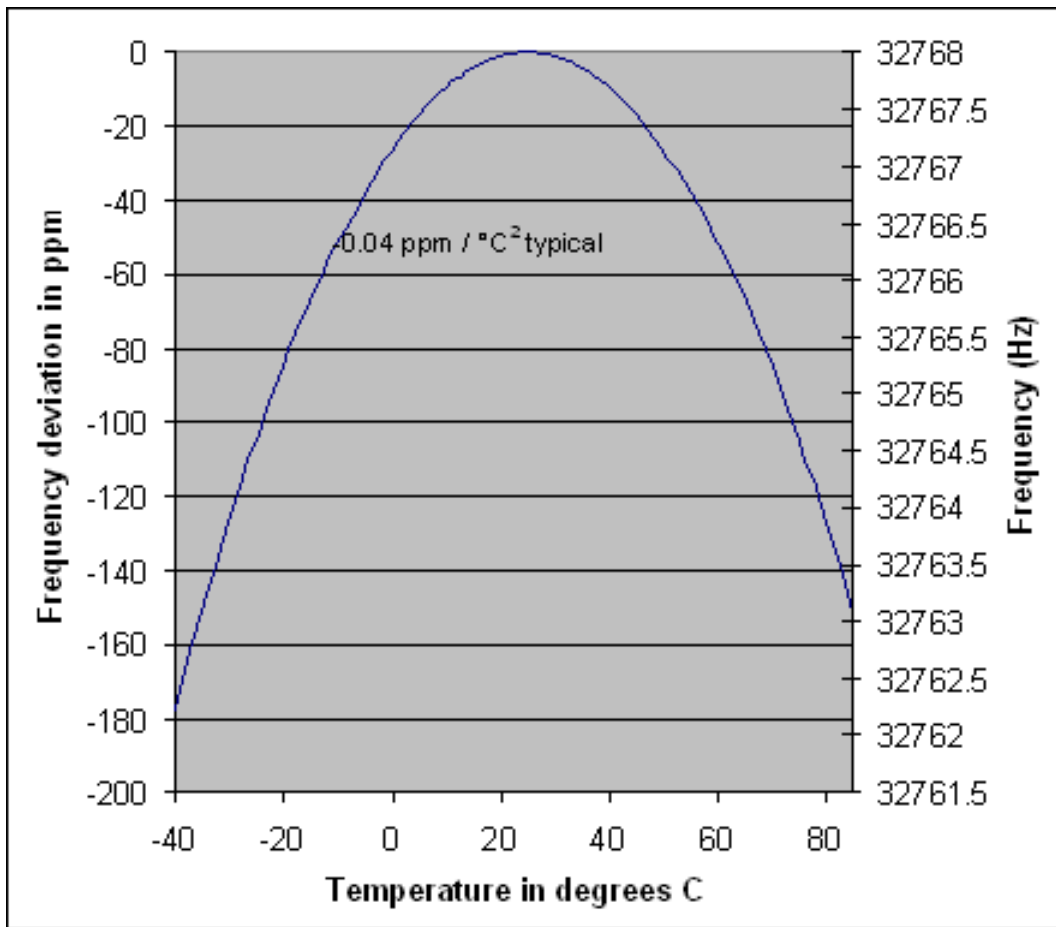

Figure 2. Crystal frequency vs. temperature.
In addition to the errors from the crystal and the load match, crystals vary from their base frequency as the ambient temperature changes. RTCs use "tuning fork" crystals, which exhibit an error over temperature, as shown in **Figure 2**. An error of 20ppm is equivalent to approximately 1 minute per month.
3. If possible, place a guard ring (connected to ground) around the crystal. This helps isolate the crystal from noise coupled from adjacent signals. See Figure 2 for an illustration of using a guard ring around a crystal.